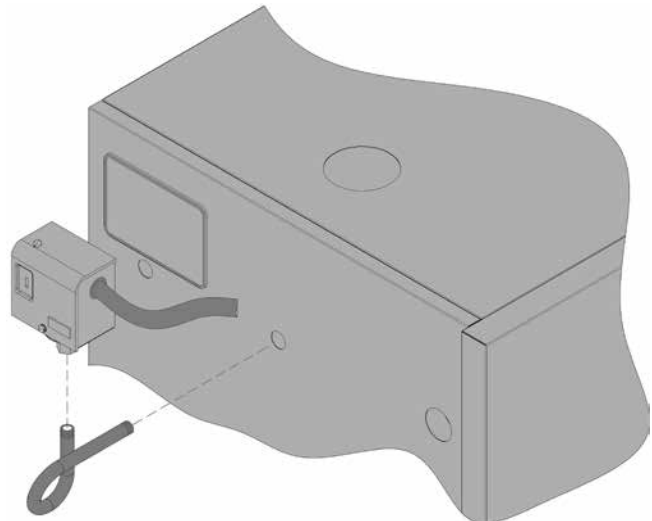

Figure 8: Pressure Limit Installation
5. Thread ¼" NPT x 4" lg. syphon-threaded long end into pressure limit tapping on front section. See Figure 8 "Pressure Limit Installation."